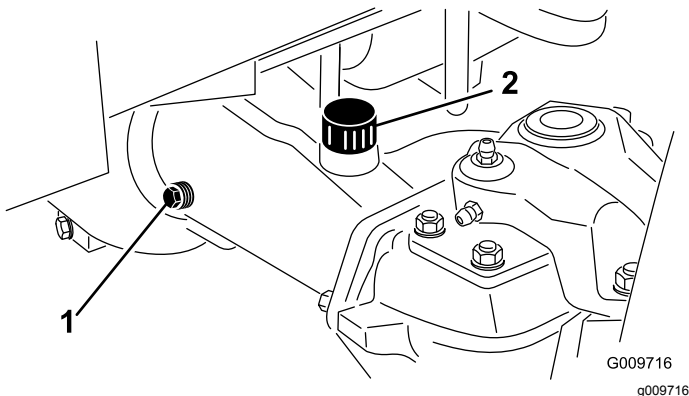

Figure 50
2. Remove a check plug from one end of the axle (Figure 50) and make sure that the lubricant is up to the bottom of the hole.
Note: If the level is low, remove the fill plug (Figure 50) and add enough lubricant to bring the level up to the bottom of the check plug holes.